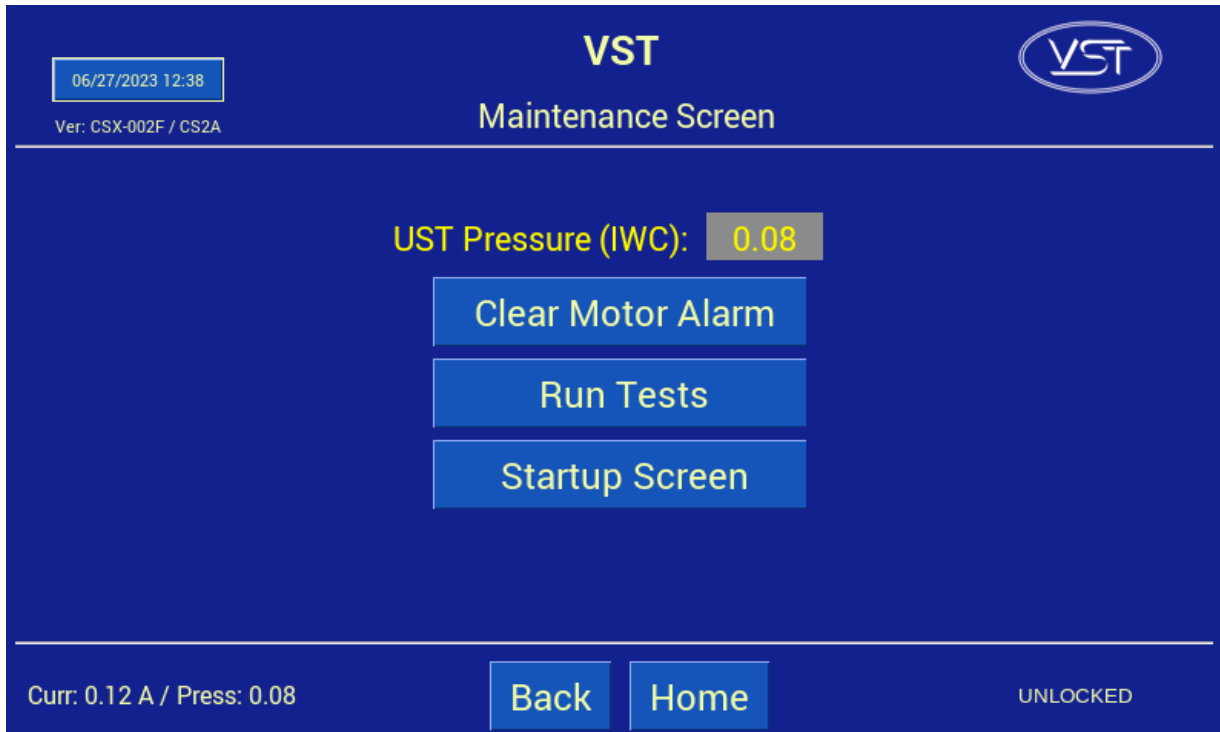
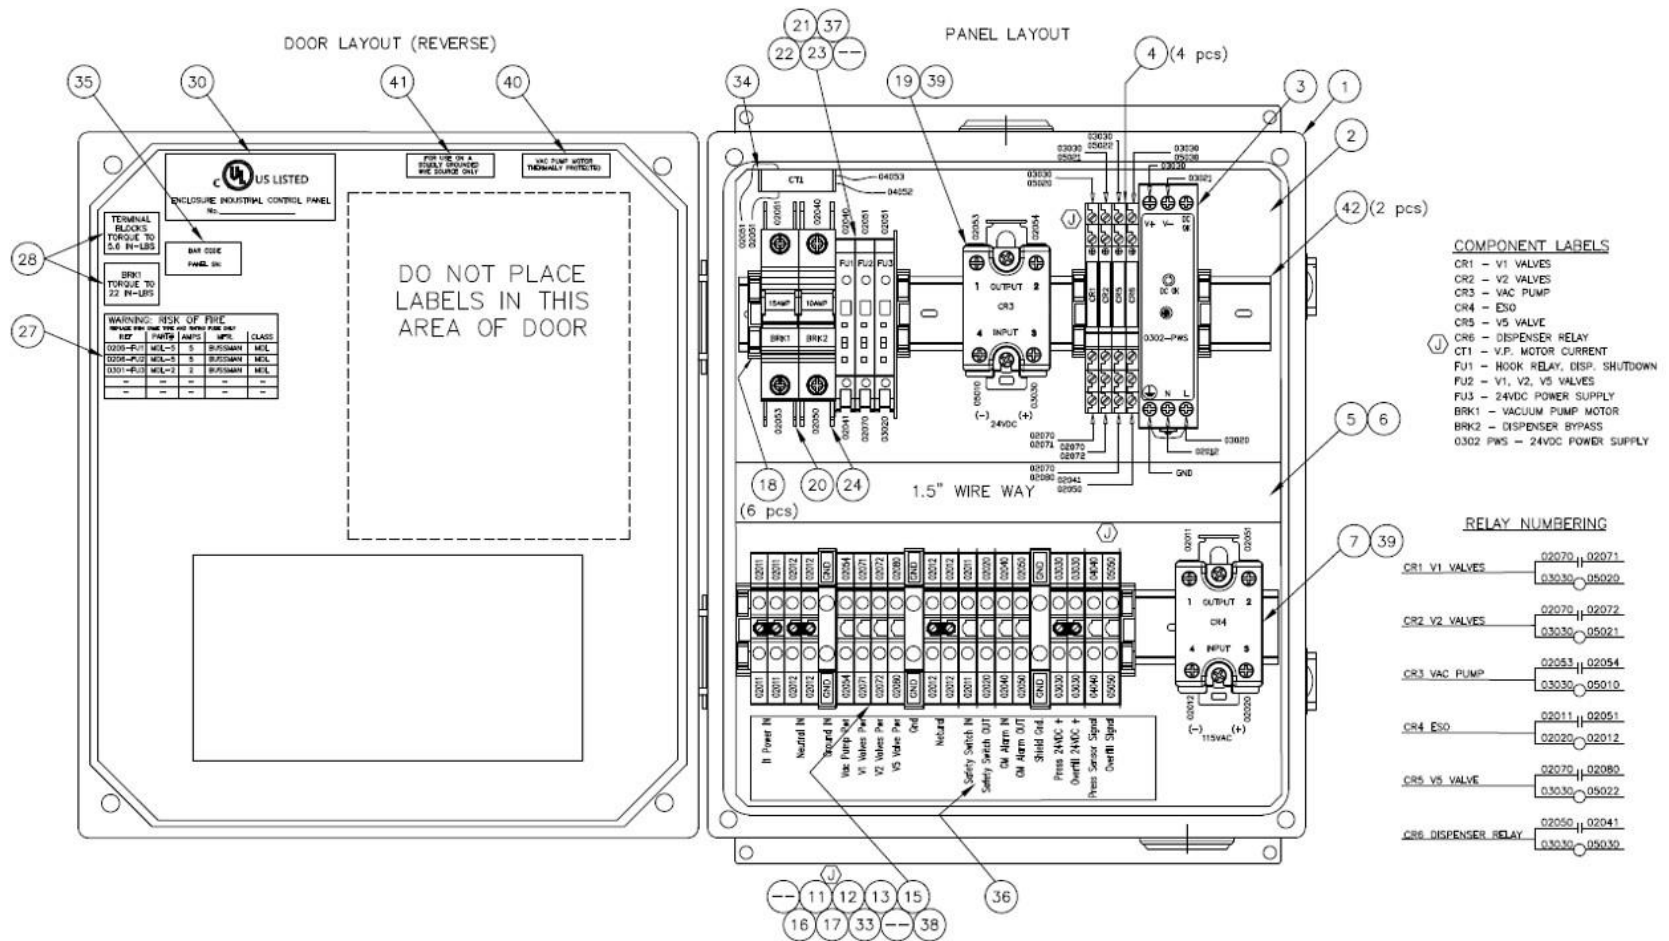

Figure 8-17: Maintenance Screen
Figure 8-21: VST Control Panel Electrical Components
1.	<p>Check to see if the Vacuum Pump breaker (BRK1) in the Control Panel has tripped. See Figure 8-21.</p> <ul style="list-style-type: none">a) Enter the Maintenance screen using the code 878 to disable the GREEN MACHINE.b) Open the Control Panel front doorc) Check the breaker BRK1 to see if it tripped:<ul style="list-style-type: none">● If the breaker lever is up and the window is RED, the breaker has not tripped.● If the breaker lever is down and the window is GREEN, the breaker has tripped.d) If the breaker has not tripped, go to Step 2.e) If the Vacuum Pump breaker has tripped, move the lever up to reset the breaker.f) Push the Clear Motor Alarm button so the alarm resets. See Figure 8-17.g) Push the Home button to go back to the Main Screen and the alarm will be cleared.h) The GREEN MACHINE is now in a Normal Operating Mode and will operate if the UST pressure is above 0.2 IWC.i) NOTE: IF THE VACUUM PUMP BREAKER CONTINUES TO TRIP, GO TO STEP 2.
- i) Push the Clear Motor Alarm button so the alarm resets. **See Figure 8-17.**
See Figures 8-17 and 8-18. Then press the Leak Test button.
- b) If a valve is not energized, the screwdriver will not be drawn to the retainer clip. **See Figure 8-21** for fuse location.